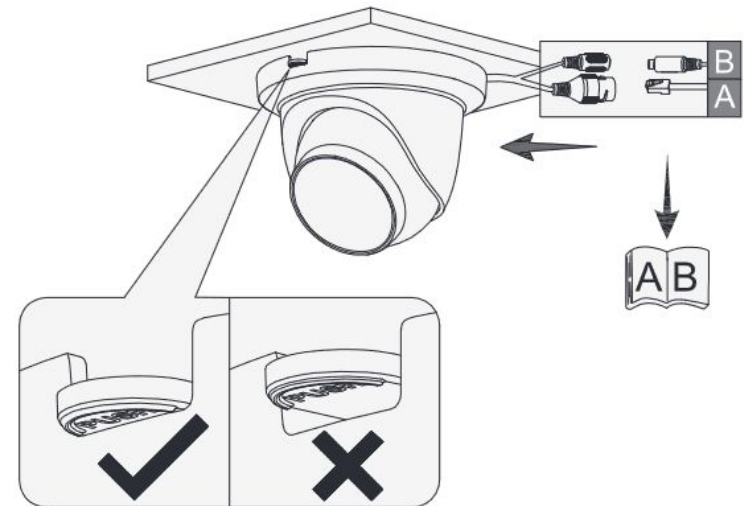

Figure 2-4
Step 4 Connect the cables to the pigtail of the camera. Make sure the locking tab is set to the downwards position to to secure the base as shown in Figure 2-4.